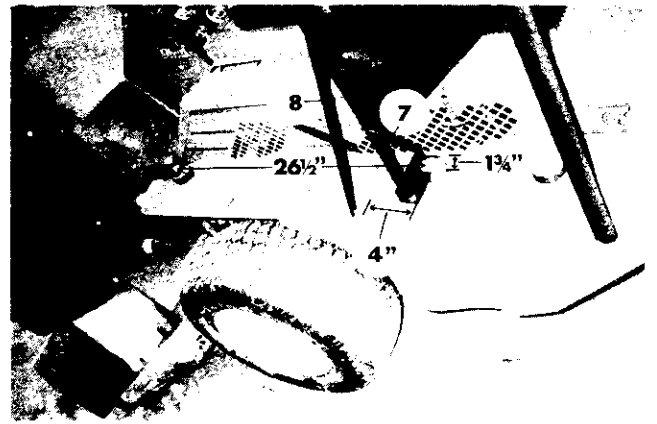

FIGURE 4
STEP 4; SEE FIGURE 4:**FOR DIESEL MODELS ONLY**
- B. To mount the REAR BRACE (8) drill an $\frac{11}{32}$ " hole 4" forward of the $\frac{1}{2}$ " hole and just inside the edge of the body. (SEE STEP 6)